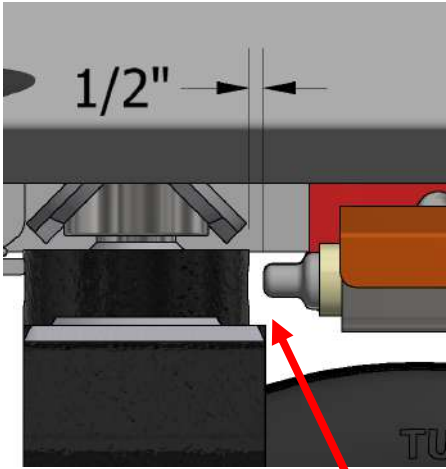

Fig. 2
- The cylinder is to be set at 1/2" inch from the end of the plunger to the edge of the yoke. *Fig. 2*